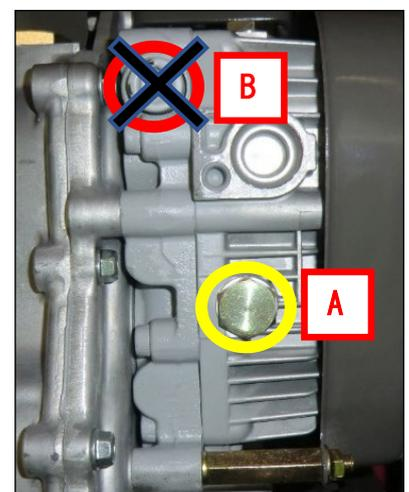

Figure 24
1. Place the suitable container below the HST unit to catch the oil, then remove the oil drain plug (A, Figure 24).
Never loosen the bolt (B Figure 24). Otherwise, it might influence for machine driving. To do so is considered misuse, and damage caused by misuse is not covered by Warranty.